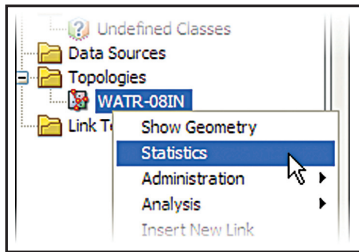

Figure 4 – Calculating Statistics
8. Gathering your Quantity – With your topology now defined, statistics can be calculated on it. Back at the “Map Explorer Task Pane,” right-click on the name of your topology and select “Statistics” (Figure 4).